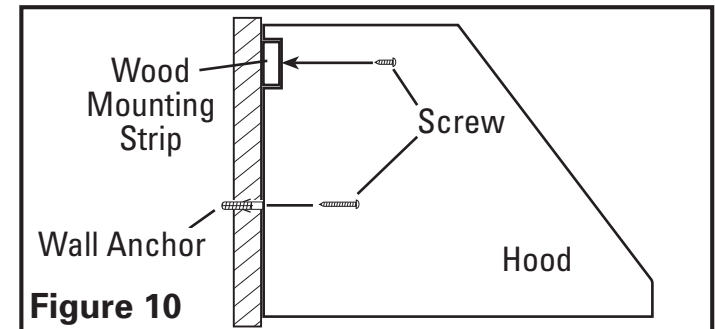

Figure 10
4. Rest the cavity in the back side of the hood on the wood strip and secure hood to wood strip with the included 3/4" screws through the holes in the back of the hood that line up with the wood strip (use 6 screws for 30" and 36" widths and 8 screws for larger widths) Secure the bottom of the hood by installing the screws provided into the wall anchors. (Figure 10).